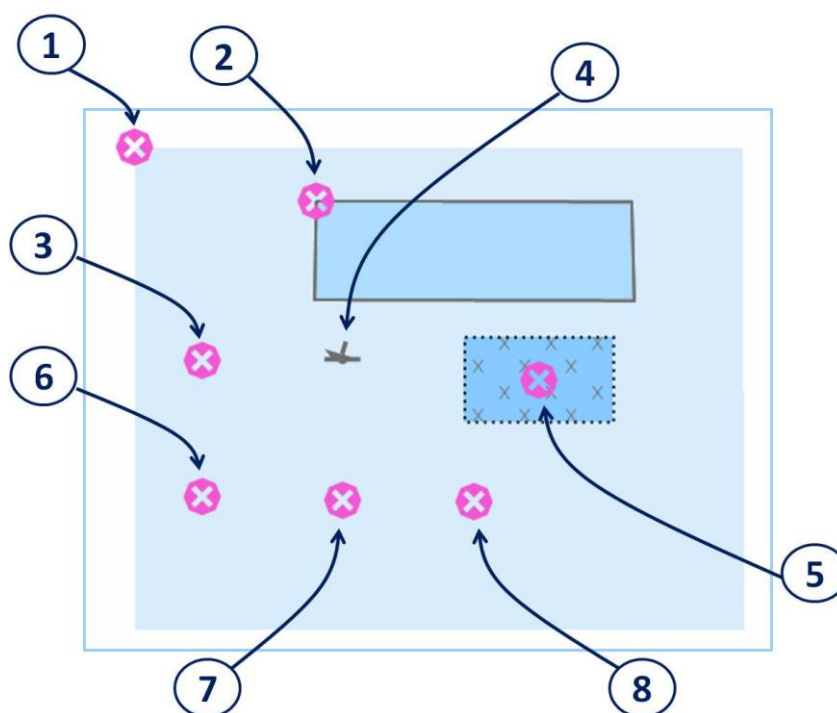

Figure 4 - Correct display of isolated dangers in STANDARD mode with a 10m safety contour/safety depth setting
With the ECDIS set up according to the list in paragraph 2.7 and zoomed to a scale of approximately 1:20,000, you should see various symbols for "isolated underwater danger of depth less than the mariner's selected safety contour" (1), (2), (3), (5), (6), (7) and (8) and a symbol for "wreck showing any portion of hull or superstructure at level of chart datum" (4). They should appear as shown in Figure 4:
What should you do if your ECDIS does not show the symbols as they are shown in Figures 4, 5 or 6?